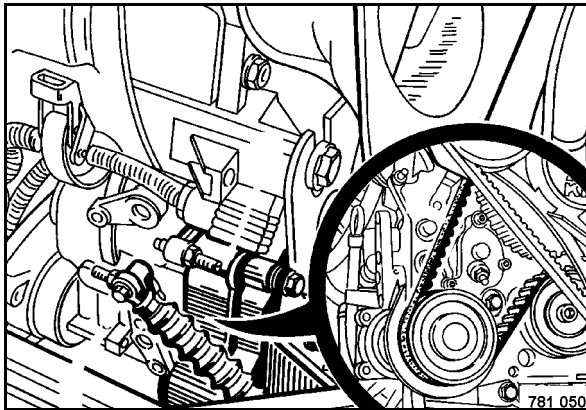

Fig. 100
- Have the toothed belt (Fig. 100) replaced by a specialist workshop.